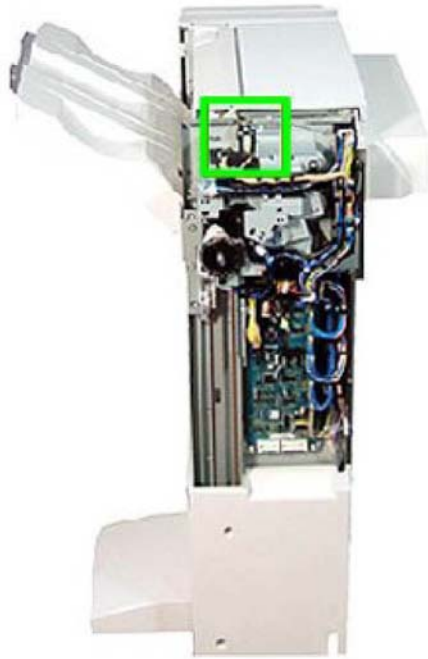

Figure 10 Eject cover switch
- **Eject Cover Switch** - triggered when the eject cover is raised. Refer to Figure 10.